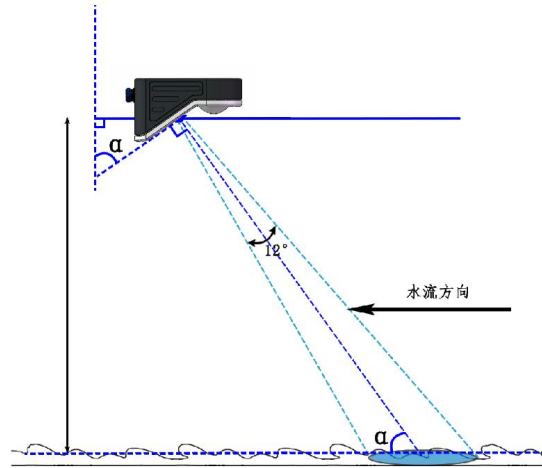

Figure 4-1 Schematic Diagram of Installation Position
(1) To ensure accurate level measurement, the flowmeter should be placed perpendicular to the water surface, ensuring horizontal installation (no significant slope on the water surface). If the flow module is installed at an incline, it may affect the accuracy and stability of radar measurements. It is recommended to control the horizontal tilt angle within $\pm 3^\circ$.
(2) When the flowmeter is placed horizontally, the angle between the velocity measurement part and the water surface is approximately as shown in Figure 4-1.
(3) The angle between the velocity module and the water surface determines the stability and reliability of velocity measurement. If the angle is too small, the radar echo will be weak, resulting in unstable and unreliable measurements. If the radar tilt angle is too large, such as between 85-90°, the radar cannot detect the Doppler frequency shift of the water flow, leading to unreliable measurements. The radar has